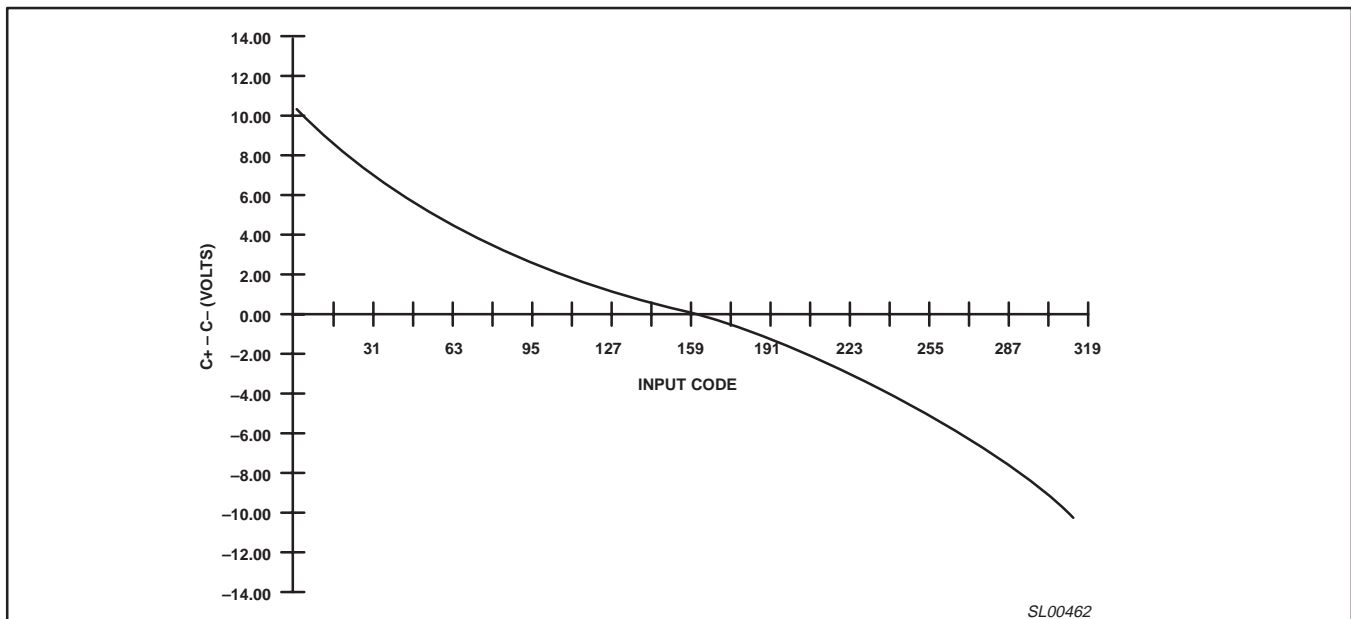
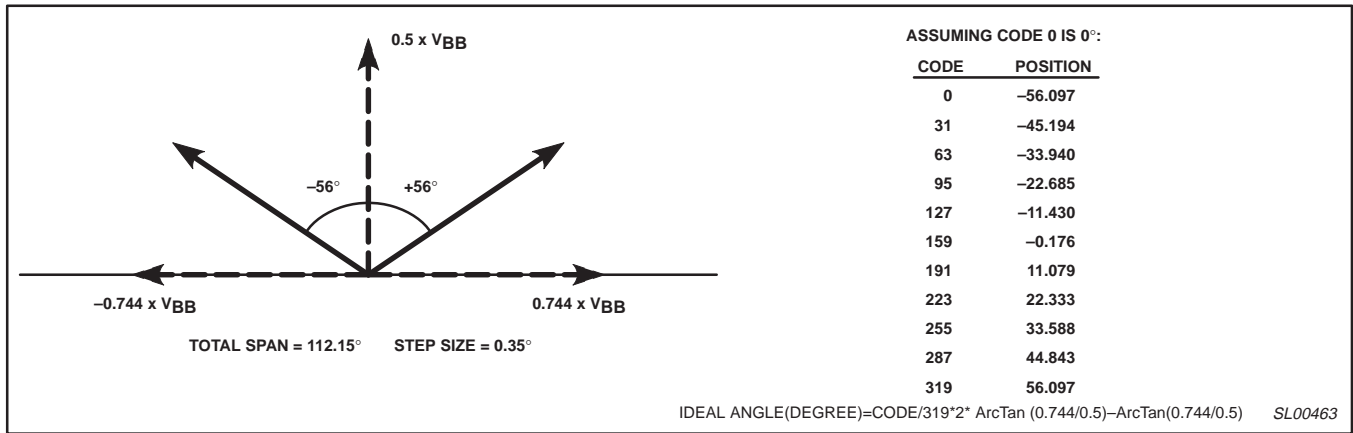

Figure 3. Typical output voltage vs input code (V_{BB} = 14 V)
Figure 4. Total span
- In reference to nominal values in Figure 4. (Based on 7+ bit DAC).
The primary function of the SA5777A IC is to generate the transfer function that maps an input code into the correct voltages for linearly controlling the coils of an air-core gauge display (Figure 3). The SA5777A has been implemented using the tangent drive algorithm. Therefore, one coil on each meter will be driven with an output approximating the tangent function, the other coils will be biased at 1/2 V_{BB}. The internal DAC is designed to operate over a 7+ bit (56°) data range. An extended range can be achieved by changing the relationship between the bias coil and the driver coil. As the current through the bias coil is reduced, the full scale deflection is increased. Theoretically, this deflection could approach 180°, but practical limitations of accuracy, resolution, and torque restrict the full scale range to approximately 112° (Figure 4). This full scale range corresponds to a bias coil voltage of 0.5 x V_{BB} and a full scale tangent voltage of 0.744 x V_{BB}. The DAC has been tailored to